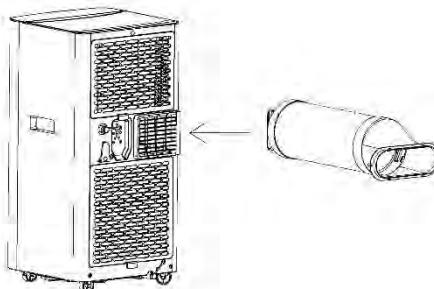

Fig.2
1. Install the heat pipe assembly (as shown in Fig.2)
- 2) insert the heat pipe assembly (the end of the exhaust joint) into the back panel vent slot (push to the left) and complete the assembly (as shown in Fig.2).